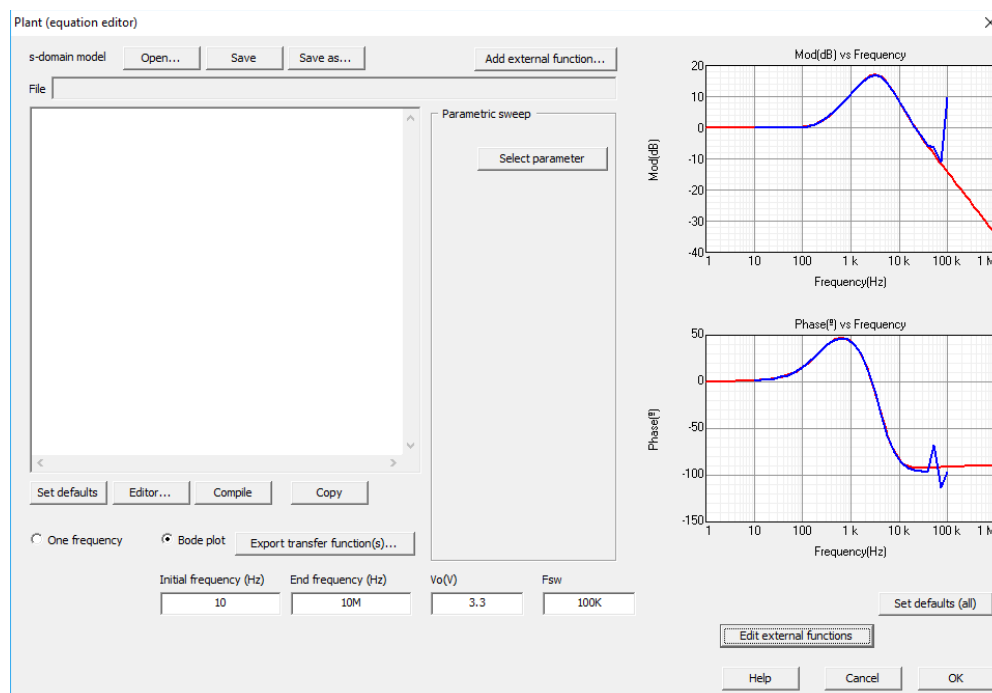

Figure 34: Transfer function comparison
- When done both transfer functions (the calculated by SmartCtrl [red] and the simulated in Psim [blue]) can be compared. See Figure 34.
As it can be seen in Figure 34, SmartCtrl solution is completely correct and accurate.